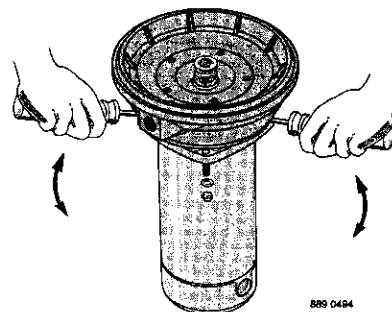

**Figure 14 – Hold Shaft**
2. If impeller must be replaced, loosen two machine screws and remove motor canopy (see Figure 14).
3. **WARNING** Capacitor voltage may be hazardous. To discharge capacitor, hold insulated handle screwdriver **BY THE HANDLE** and short capacitor terminals together (see Figure 14). Do not touch metal screwdriver blade or capacitor terminals. If in doubt, consult a qualified electrician.
- Hold motor shaft with 7/16" open end wrench on shaft flats (Figure 14, Page 8) and screw impeller onto shaft. **Be sure you do not touch capacitor terminals with body or any metal object.** Tightening impeller will automatically locate seal in correct position.